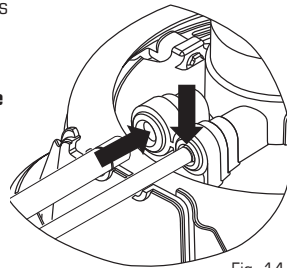

Fig. 14
5. **Insert** each tube into the proper locations on the Bracket until you meet the marks or the marks disappear (Fig. 14).